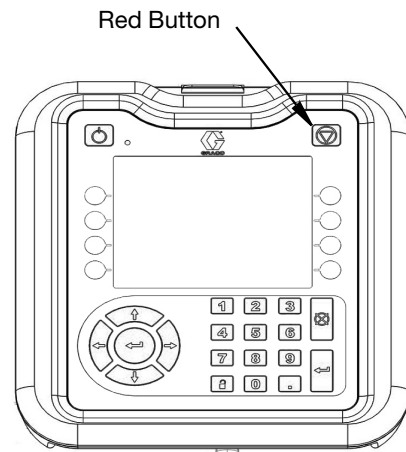

FIG. 30
3. Disable the ADM by pressing the top right red button. See FIG. 30.